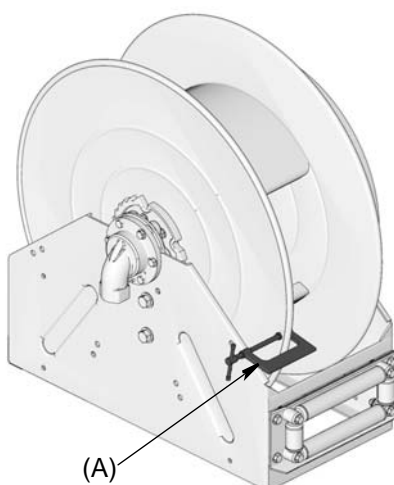

FIG. 17
3. Attach a c-clamp (A) to the reel spool as shown in FIG. 17 to help prevent the reel from unintentionally becoming unlatched and spinning freely.